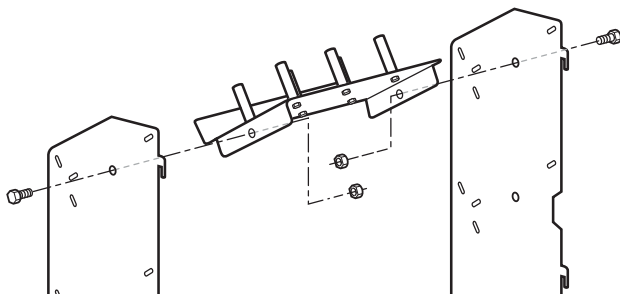

Figure 4-19
- Use eight M8 x 16 Hex Flange Bolts (item #24) with M8 Flanged Nylock Hex Nuts (item #2), and attach the four Angled Trays (item #20) to the two Hook Panels (item #23) as shown in Figure 4-19. Make sure to align and insert the tabs on the Angled Trays into the correct slots in the Hook Panels. **When all tray tabs are positioned correctly, fully tighten the eight M8 x 16 Hex Flange Bolts (item #24) and eight M8 Flanged Nylock Hex Nuts (item #2).**